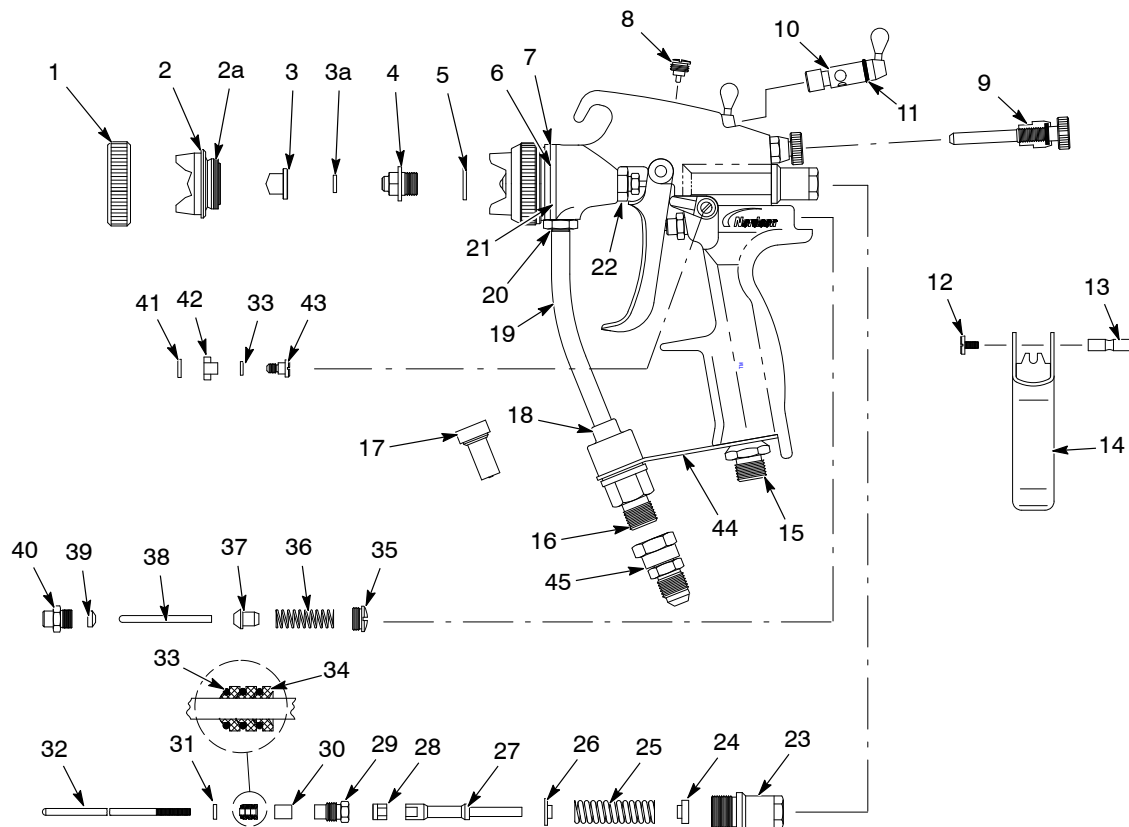

Figure 4 Trilogy AAA LT Spray Gun Parts
4. See Figure 4. Remove the air cap retainer, air cap, and nozzle (1, 2, 3). Blow out the nozzle with compressed air, from the front. Clean the nozzle and air cap with a soft-bristle brush and a compatible solvent or waterborne cleaning solution.
2. See Figure 4. Unscrew the hose connector (16) with a wrench.
3. Remove the filter (17) from the housing (18).
See Figure 4. The atomizing air regulator O-ring (11), air valve needle seal (39), and the trigger axle (13) should be lubricated regularly with silicone-free oil or silicone-free grease.
These troubleshooting procedures cover only the most common problems. If you cannot solve a problem with the information given here, contact your local Nordson representative for help. See Figure 4 for parts.
1. See Figure 4. Remove the air cap retainer, air cap, and nozzle (1, 2, 3).
2. Push the nozzle (3) out of the air cap (2).
1. See Figure 4. Unscrew and remove the spring cap, spring, and washers (23, 24, 25, 26).
2. Loosen the needle packing gland (29).
1. See Figure 4. Remove the needle as described in *Needle Replacement*.
3. Unscrew the chamber nut (22) and slide it off the packing gland.
4. Pull the atomizing chamber (21) off the front of the gun body. Note that in the gun body are one small black O-ring and two larger white seals (6, 7). Inspect and replace them if damaged.
5. Unscrew the the packing gland (29) from the assembly. Remove the gland collar (30), then pull the three O-rings and the three cup seals (33, 34) out of the gun body.
1. See Figure 4. Remove the trigger screw, pin, and trigger (12, 13, 14).
2. Unscrew the valve packing gland (40).
3. Pull out the old valve seal (39) and replace it with a new one.
3. Unscrew the spring cap (23) and remove the spring and washers (24, 25, 26).
5. Unscrew the seal retaining screw (4) with a 10-mm socket wrench, and remove the aluminum seal ring (5).